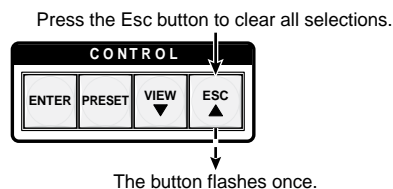

Figure 3-51 — Clear all selections
1. Press and release the Esc button (figure 3-51).